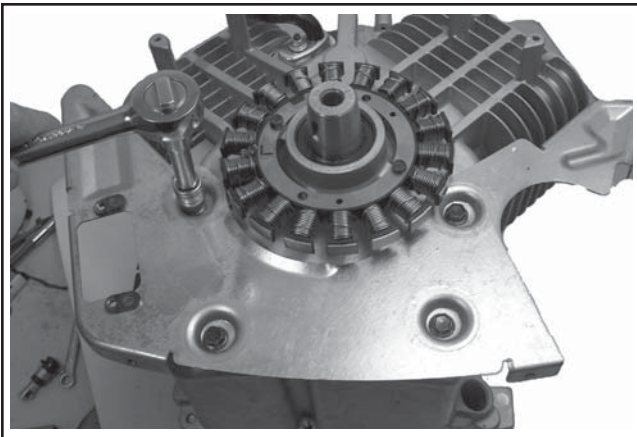

Figure 8-39. Removing Backing Plate.
1. Remove the four mounting screws and the backing plate from crankcase. See Figure 8-39.